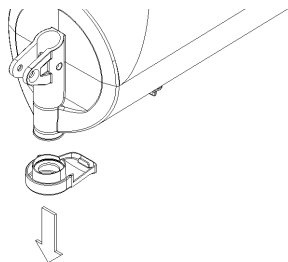

figure 15
7 Remove the flow restrictor from the container (see figure 15).
- 5** Remove the flow restrictor from the container (see figure 15).